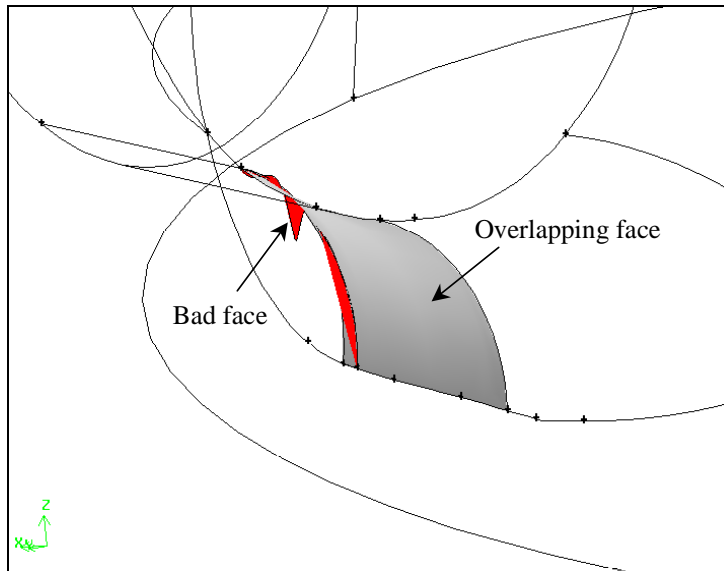

Figure 13-4: Zoomed view of bad and overlapping faces
1. *Ctrl-left-drag* the mouse to zoom in on the region containing the bad and overlapping faces (shown as shaded faces in Figure 13-4).
The shaded faces shown in Figure 13-4 must be deleted, rather than “cleaned up,” before the geometry can be correctly healed.
- a) Select the bad and overlapping faces shown in Figure 13-4, above.